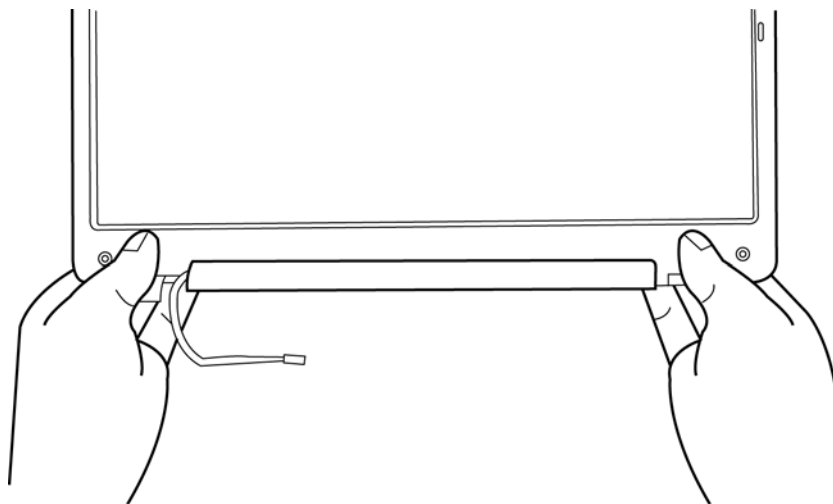

Figure 4.36 Pressing the bezel downside hook
4. Press the bezel downside hook near the hinge wall as shown in Figure 4.36.